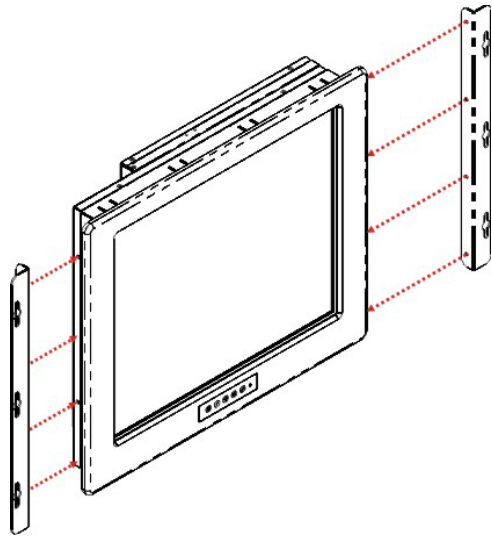

Figure 5-16: Rack Mounting Bracket Installation (DM-190)
Step 2: Secure the rack mounting bracket to two sides of the monitor using the supplied retention screws. Each bracket requires four screws. (See **Figure 5-16**)